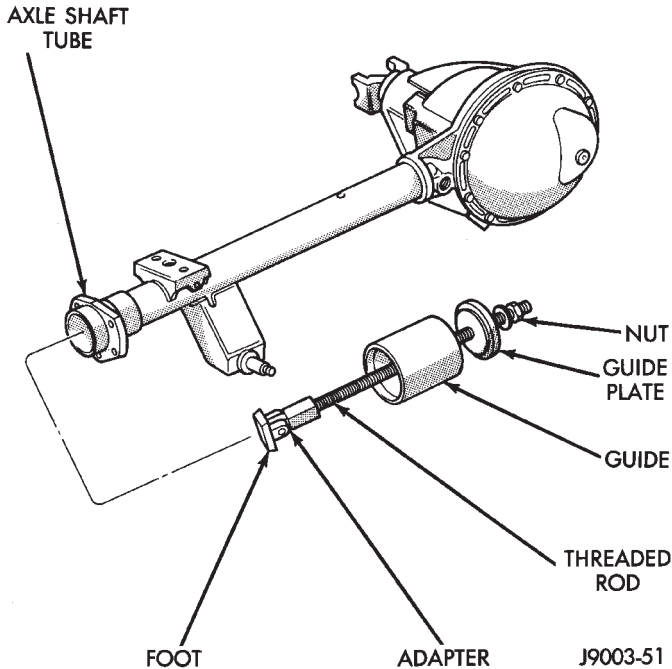

Fig. 21 Axle Shaft Bearing Removal
(3) Remove the axle shaft bearing from the axle tube with Bearing Removal Tool Set 6310 using Adapter Foot 6310-5 (Fig. 21).